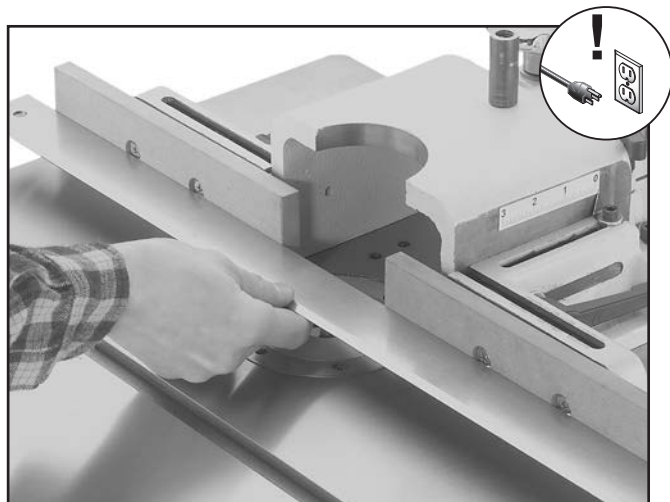

Figure 74. Example of aligning fence boards.
2. Make sure the fence boards are even with each other, then place the straightedge against both fence boards, as shown in **Figure 74**.